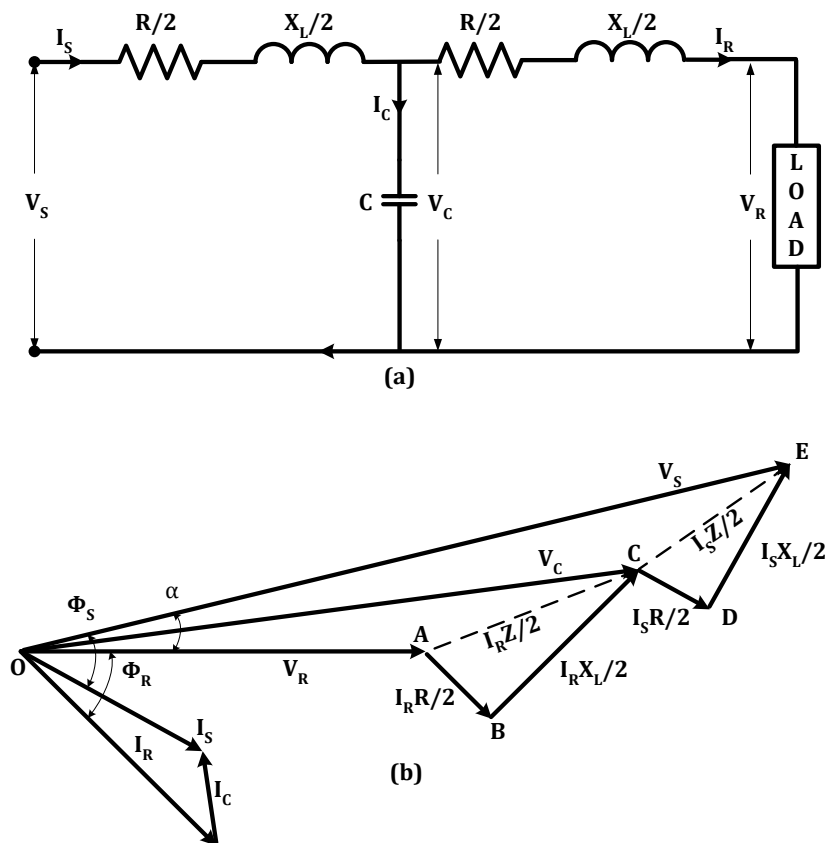

Figure 1.4 Nominal T method (a) Circuit and (b) Vector Diagram
- Half of the line resistance and reactance are lumped on the either side as shown in fig. 1.4(a). In this arrangement, full charging current flows over half the line.
Taking V_R as the reference phasor, the phasor diagram is shown in the fig. 1.4(b)